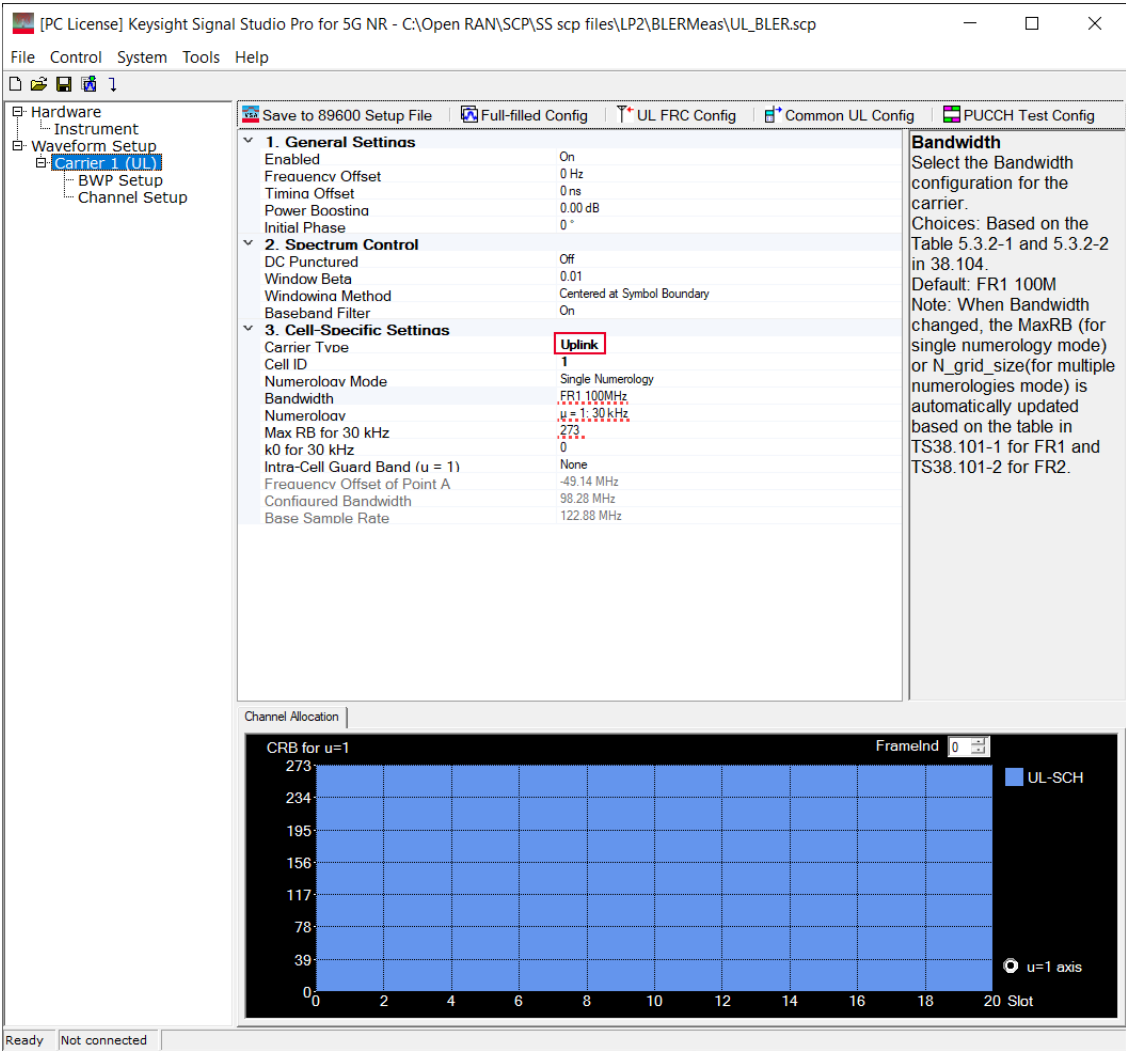

Figure 1 SCP file settings in Signal Studio
- 1 For the Open RAN Studio software to gather data for BER / BLER measurements, you must configure the Carrier with the characteristics, which are shown in Figure 1.